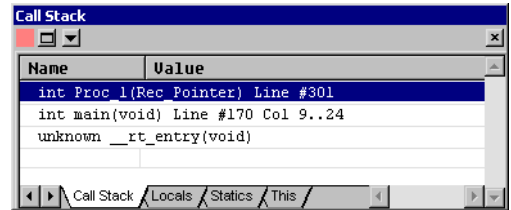

Figure 7-9 Multistatement details in the Call Stack pane
6. Select **View** → **Call Stack** to view the Call Stack pane, shown in Figure 7-9.
7. Continue to step through your program. If the current line is a multistatement line, the Call Stack pane shows the information in the form of line and column details, shown in Figure 7-9.
| Call Stack | Displays details of the functions currently on the stack, shown in Figure 7-9. |